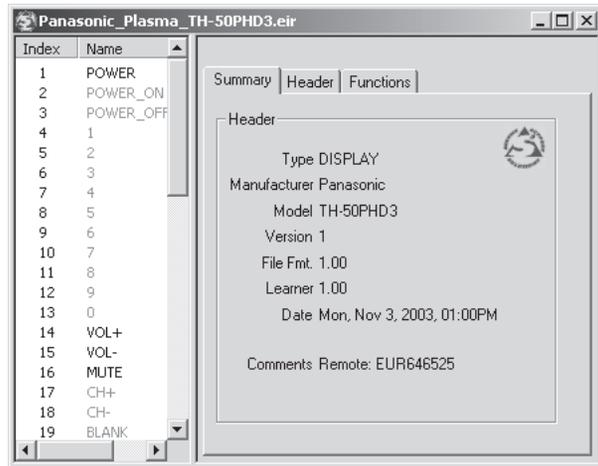

Figure 4-20 — Selecting driver functions
1. Select those functions that are to be learned (see figure 4-20). Then begin a learning session by pressing the learn toolbar button. A series of messages and windows will guide the user through the “learn” process, instructing the user on how to aim the remote, what button to press and when to release the button.